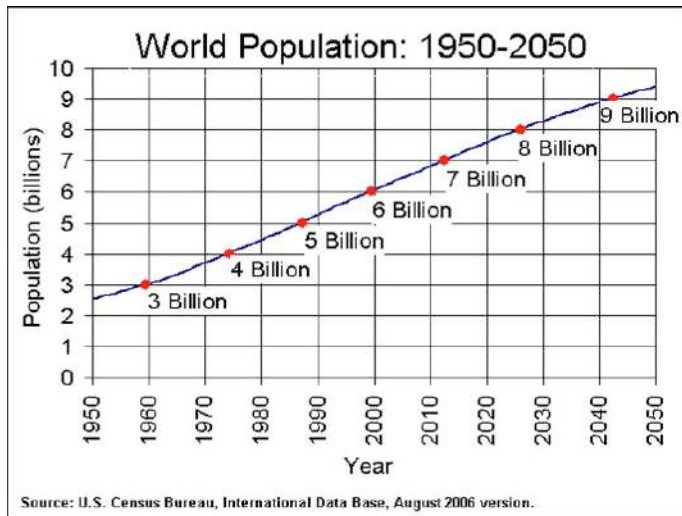
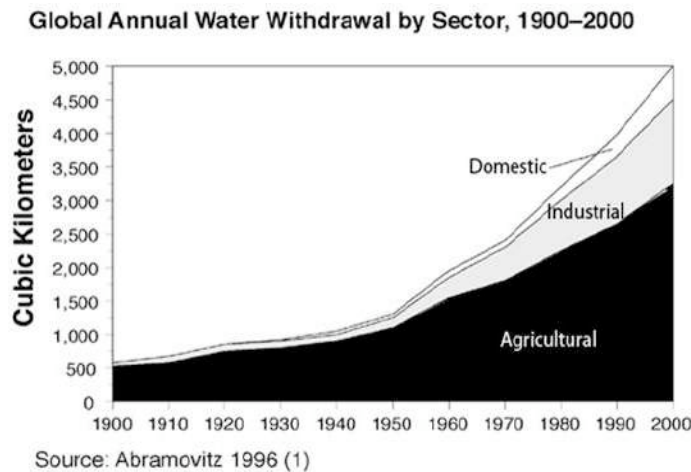

Figure 4. World population from 1950 to 2050 (predicted).
Figure 5. Global annual water withdrawal by sector, 1900-2000.
9. In Figure 4, what trend do you see in for the global population?
11. According to the graph in Figure 5, which sector uses the most water?
13. How does the trend in water consumption (Figure 5) compare to the trend in population (Figure 4) for the time period 1950-2000?